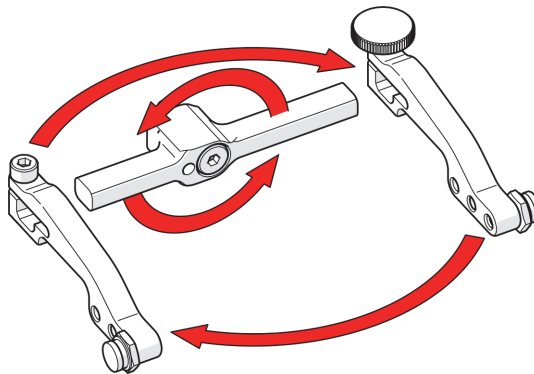

Figure 2-68 Flip yoke and reverse arms
4. Flip the yoke 180° and reverse the probe holder arms (see Figure 2-68 on page 102).